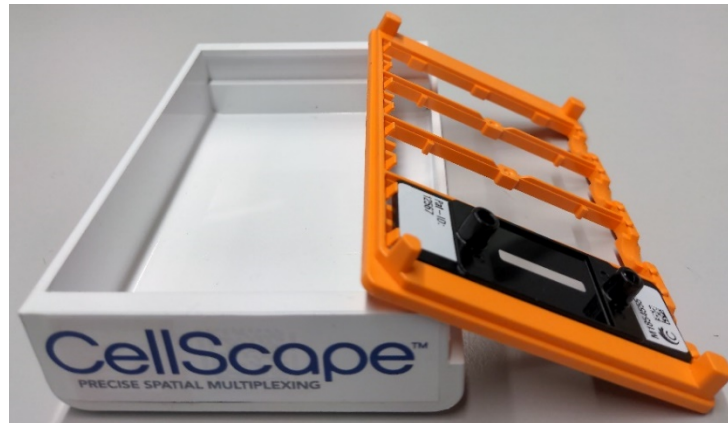

Fig. 4 | Tilting the chip ensures cell solution settles in the visible channel
- Tilt the chip with the inlet high to move the cell solution to the channel (Figure 4).